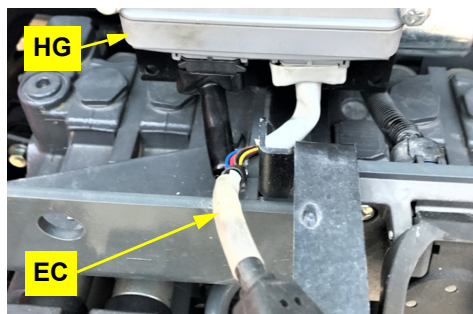

Figure 2a: Installed ECU main cable
- a. Connect steering controller cable **EC**'s two 12-pin connectors (black and gray) to their respective sockets on the steering controller **HG** (Figure 2a).